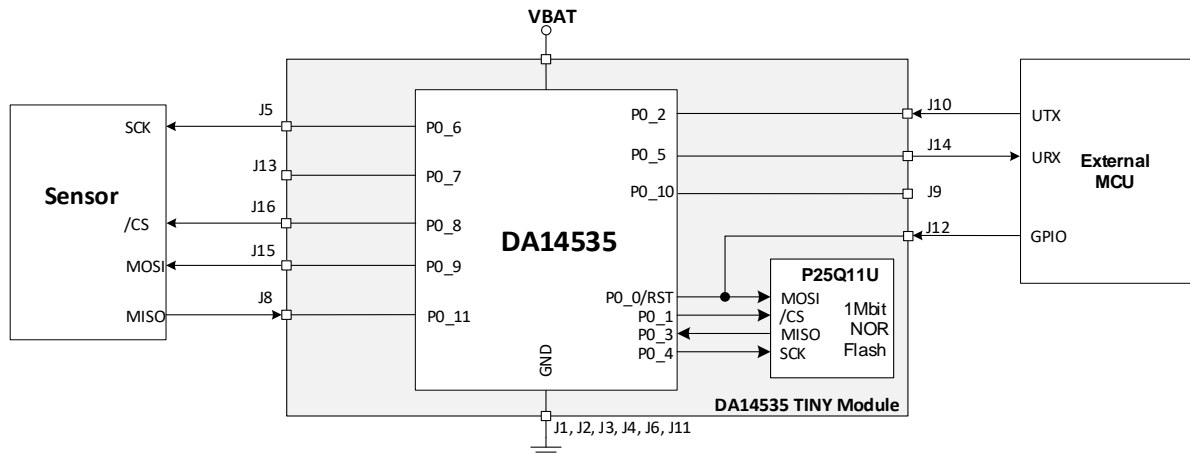

Figure 9. Example of connecting a sensor to the SPI bus and an MCU to RST and UART
- The SPI Bus of DA14535 SoC is used for communication with the NOR Flash at boot time. Three of the four signals are not driven to external module pins. For this reason, a sensor that utilizes the SPI bus must be assigned (by software) to the module pins to communicate with after the boot is completed and when NOR Flash is no longer in use. An example is given in Figure 9.